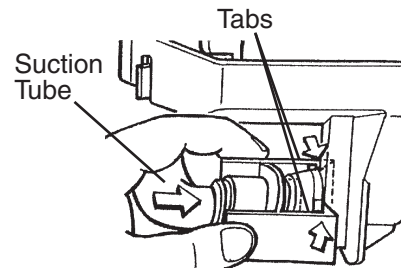

Fig. 33
- 8) Reconnect the suction tube as illustrated. See Fig. 33. Make sure the tabs lock into place; a loose fitting may cause a water leak.